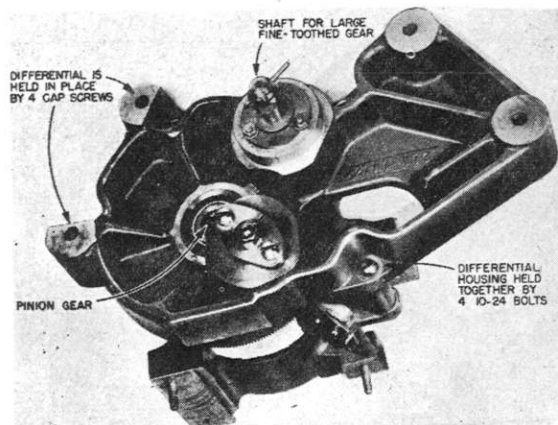

FIGURE 2.
- a. Remove the locking clip (if used) and the four bolts (fig. 2) holding together the two halves of the differential casting. Carefully separate these two halves by prying evenly on opposite sides.